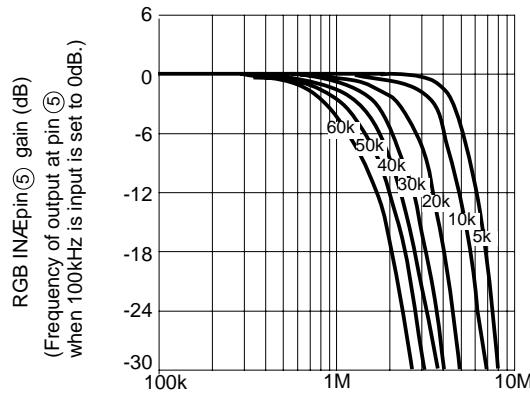

Fig. 1 Frequency characteristics of color difference LPF
(3) Setting of chroma difference LPF
The frequency characteristics of the chroma difference LPF which is built in this IC can be set as shown in Fig. 1 by connecting a resistor externally to pin ⑩ (fc CONT.).